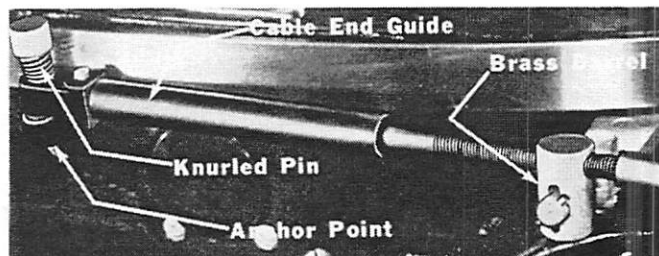

Figure 15. Shift Cable Installed
3. Fasten shift cable end guide to top of anchor point on bottom cowl. (Figure 15)
5. Remove knurled pin from anchor point and place brass barrel on clevis yoke with cable on top. (Figure 15)
6. Re-insert knurled pin in anchor point. (Figure 15)